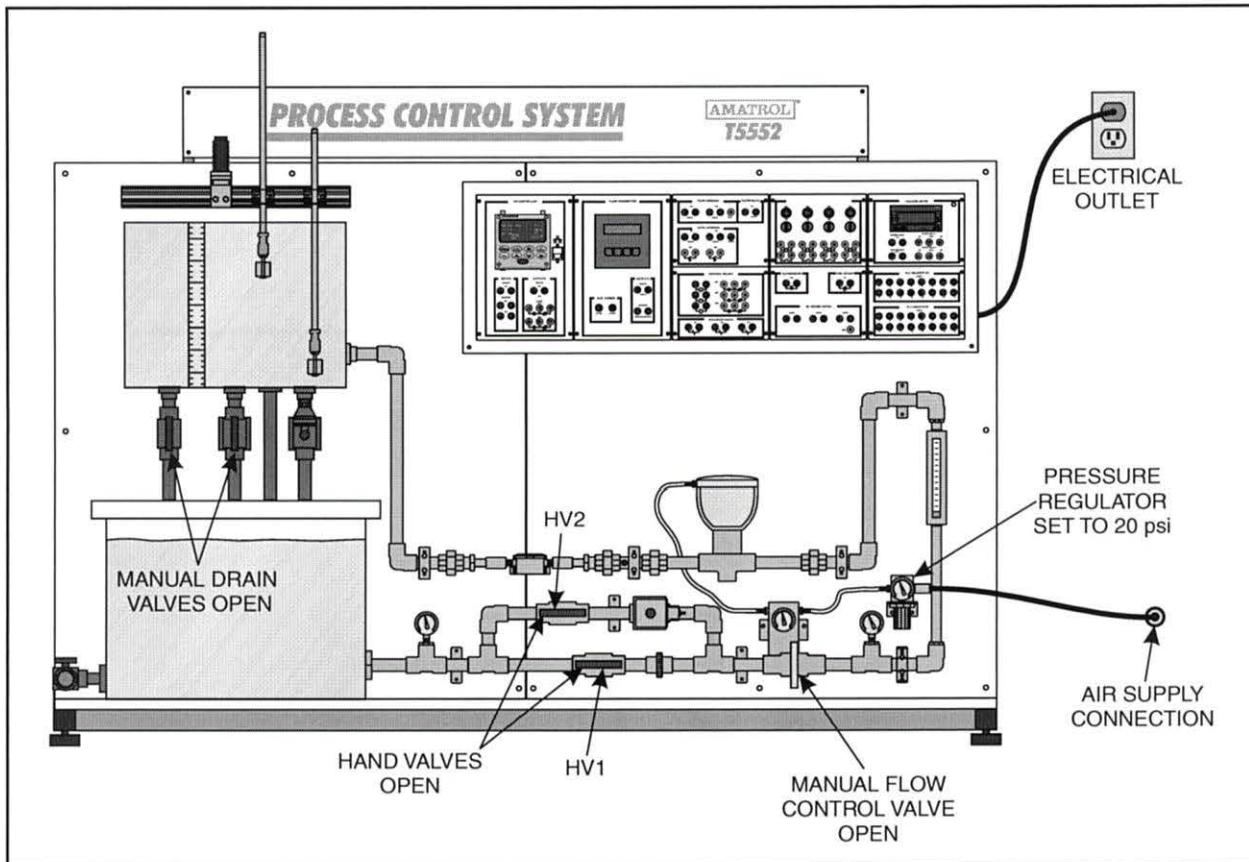

Figure 52. T5552 Setup
- 2. Perform the following substeps to set up the T5552, as shown in figure 52.